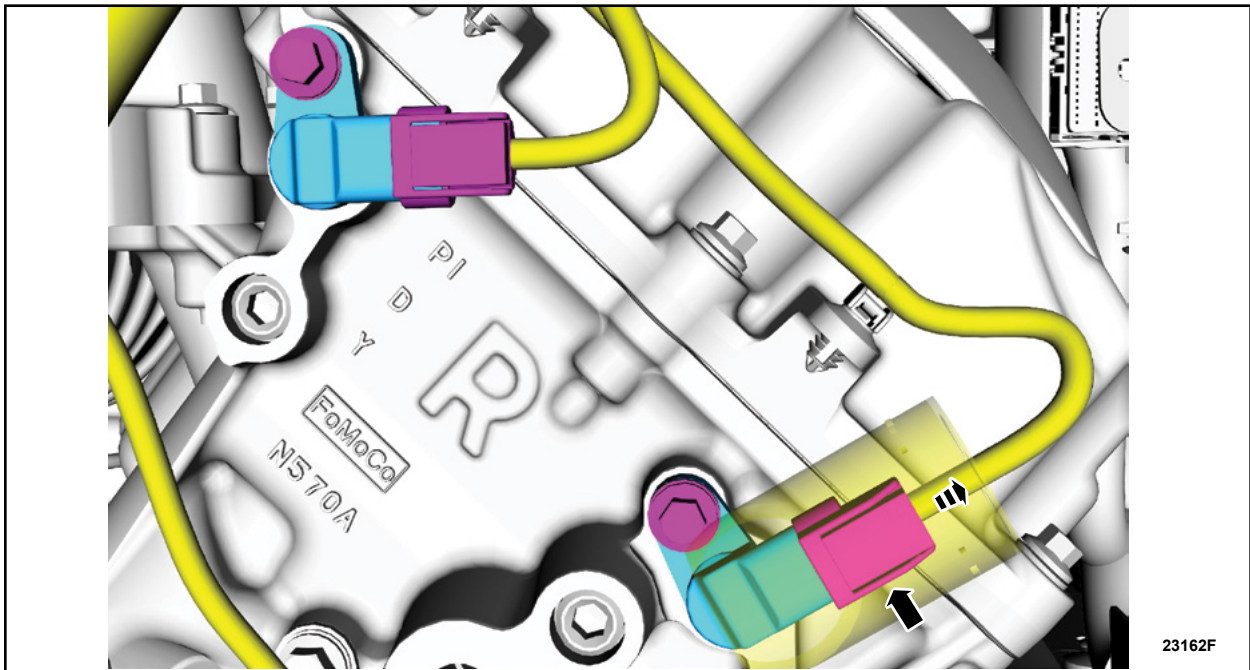

FIGURE 3
5. Remove the right hand (RH) heat shield and disconnect the exhaust camshaft position sensor electrical connector. See Figure 3.